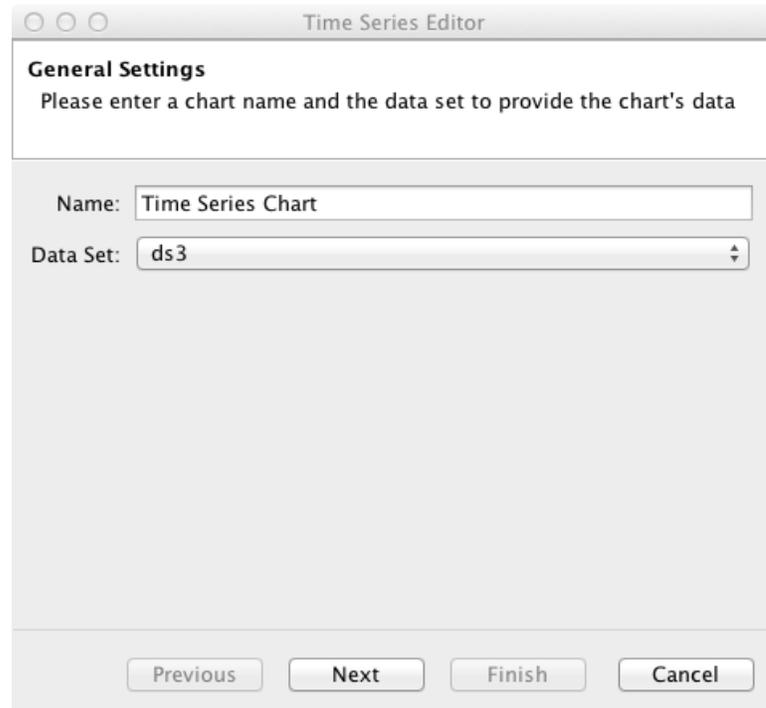

FIGURE 8. Time Series Editor
**4.1. Time Series.** To create a time series chart right click on the Charts node in the scenario tree and choose “Add Time Series Chart”. You should see a dialog like that in fig. 8. Here you can type in a name for your chart and select the data set you wish to chart in the data set combo box. Note that the data set must contain a data source named “tick” in order to create a time series. The standard data source “current tick count” will provide this, but you can also create your own “tick” data source. The tick value will be the x-axis value. The next step will be different depending on the type (aggregate or non-) of data set you have chosen.